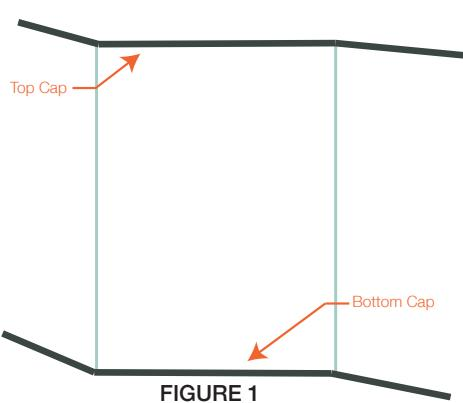

FIGURE 1
2. Install all perimeter bottom cap trim. Use self-tapping stainless steel screws to secure bottom cap trim. (See Figure 1)
1. Establish a true and level line on the wall appropriate to the back height used [see fig. 1]
2. Mark and/or snap a line [see fig. 1]
3. Locate and mark a series of points to indicate the leading edge of the base on the floor [see fig. 1]
Do Not Use A Chalk Line: Using a pencil or permanent marker, mark adhesive location(s) per base requirements [see fig. 1]